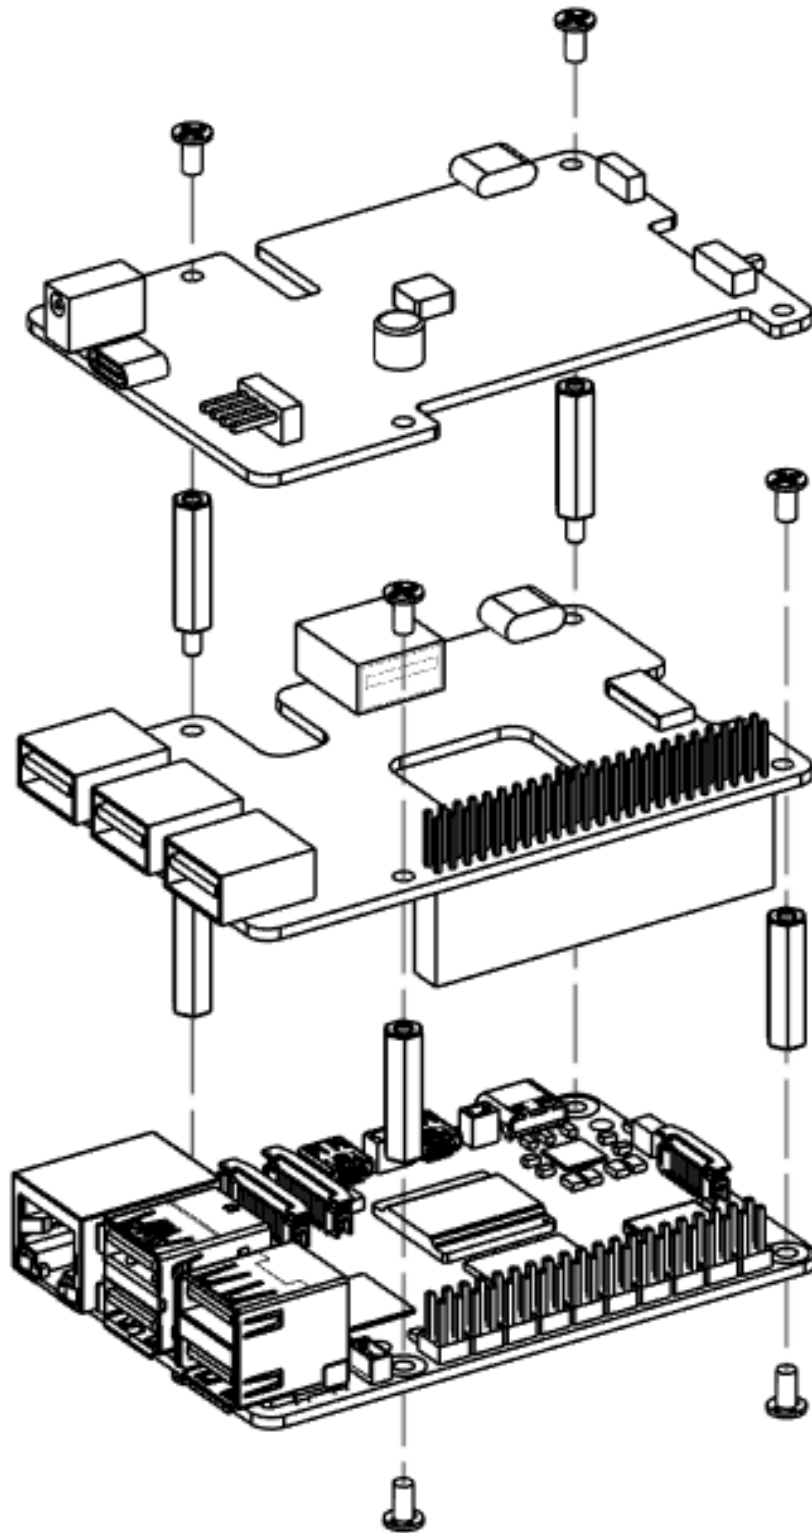

Figure 0.8 - Raspberry Pi Assembly
1. Fasten standoffs to Raspberry Pi as shown in Figure 0.8
- a. (4) Raspberry Pi Connecting Screw
- b. (4) Raspberry Pi Connecting Standoff: Female-Female
2. Fasten USB HAT to standoffs as shown in Figure 0.8
- a. (2) Raspberry Pi Connecting Screw
- b. (2) Raspberry Pi Connecting Standoff: Male-Female
- a. **NOTE:** Not pictured in Figure 0.8
4. Fasten Power Board to standoffs as shown in Figure 0.8